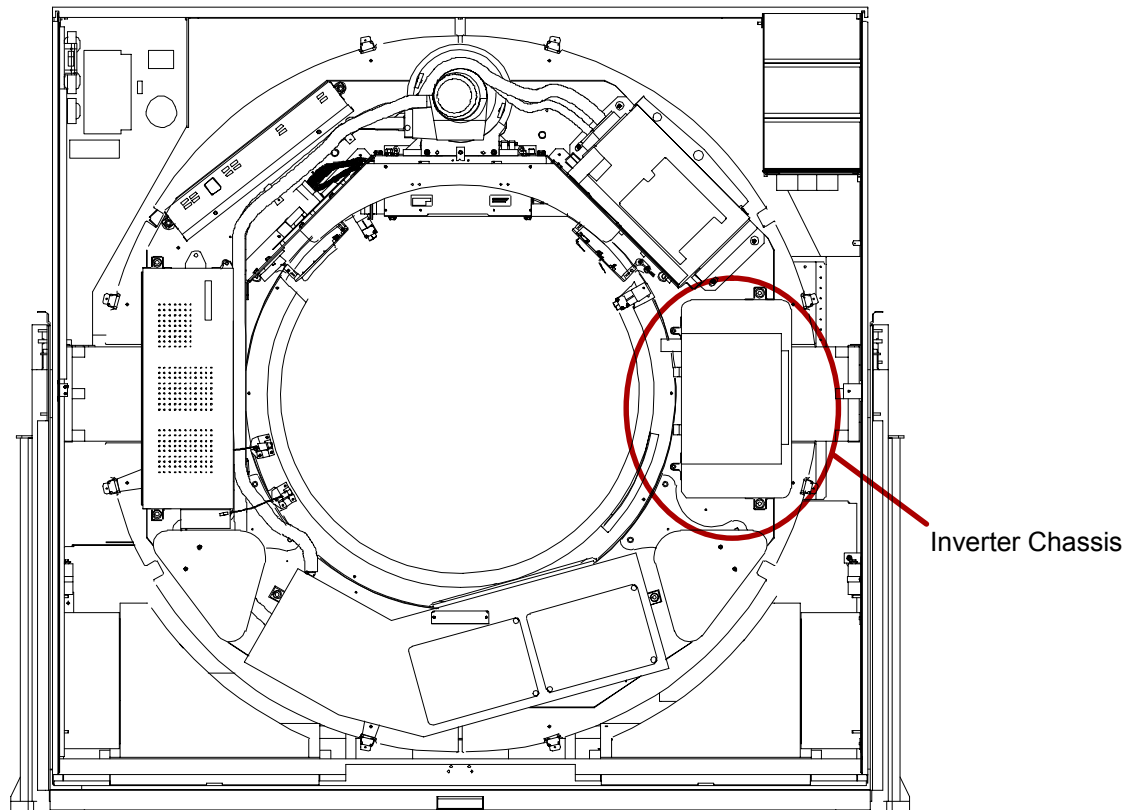

FIGURE 272 SCAN FRAME PINNED WITH TUBE AT 12:00
3. Rotate the scan frame counterclockwise by hand until the x-ray tube is at the 12:00 position. Lock the scan frame with the locking pin. See Figure 272.